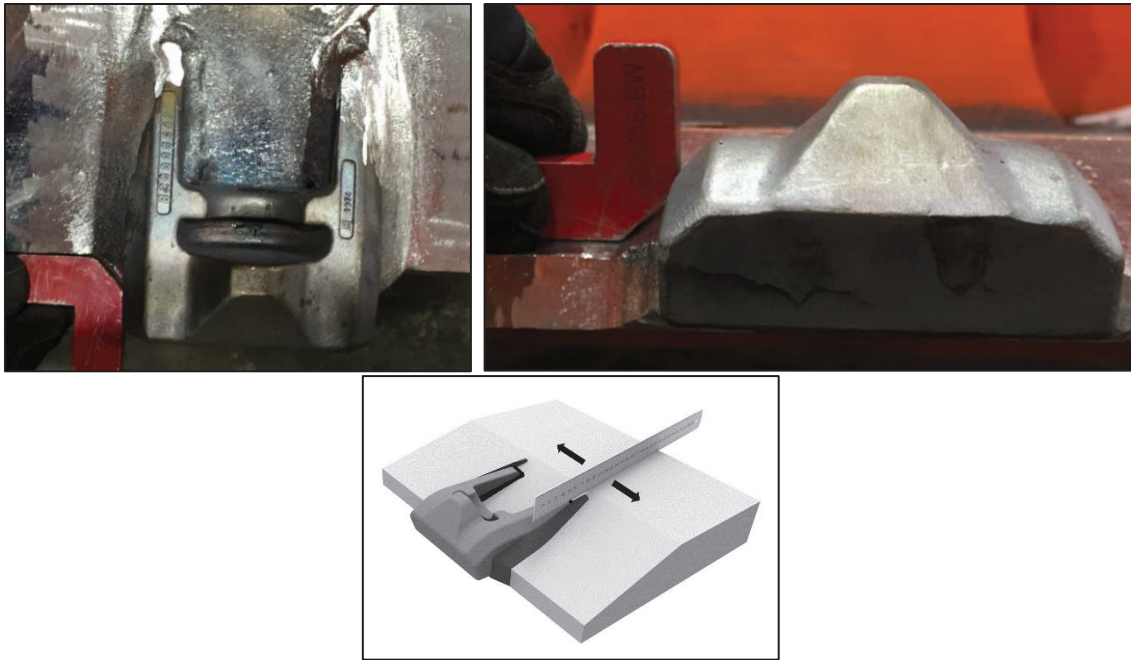

Figure 40 Boss weld gauging
3.3.2. Inspect all boss fillet welds as per Gauging Procedure PGP0051. Refer Figure 40.